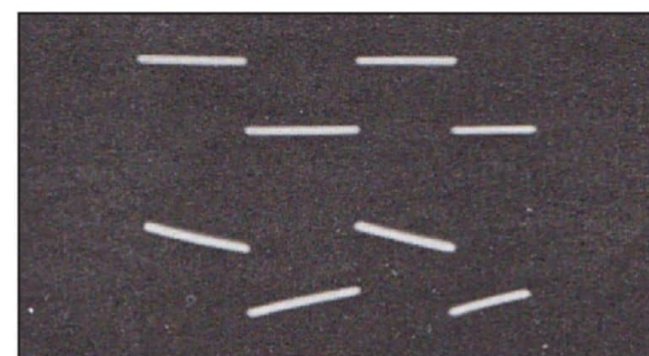

Figure 1 : Here is a 40-Hz square-wave test.
**Figure 1** shows a 40-Hz square wave test of a power amplifier, with the traces photographed by an oscilloscope camera (hence, no grid lines). The upper wave is the input wave. The lower wave has very fast rise and fall, indicating good HF response. The sloping top and bottom actually indicate LF phase shift, even though the amplifier's LF response extended well below 40 Hz.